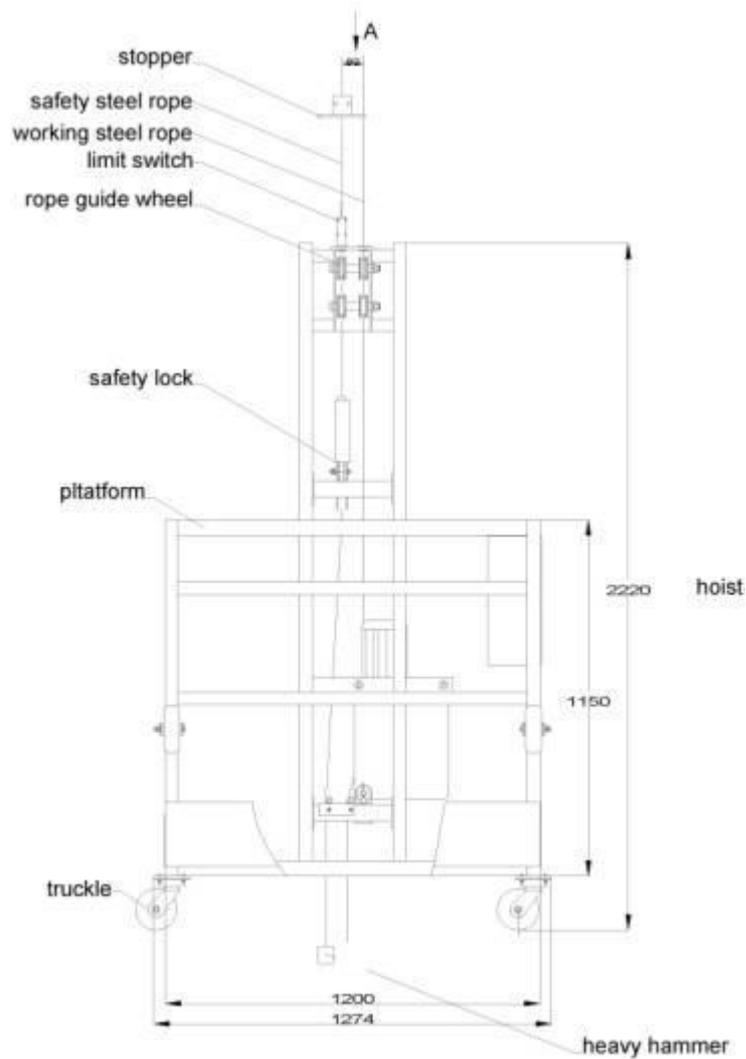
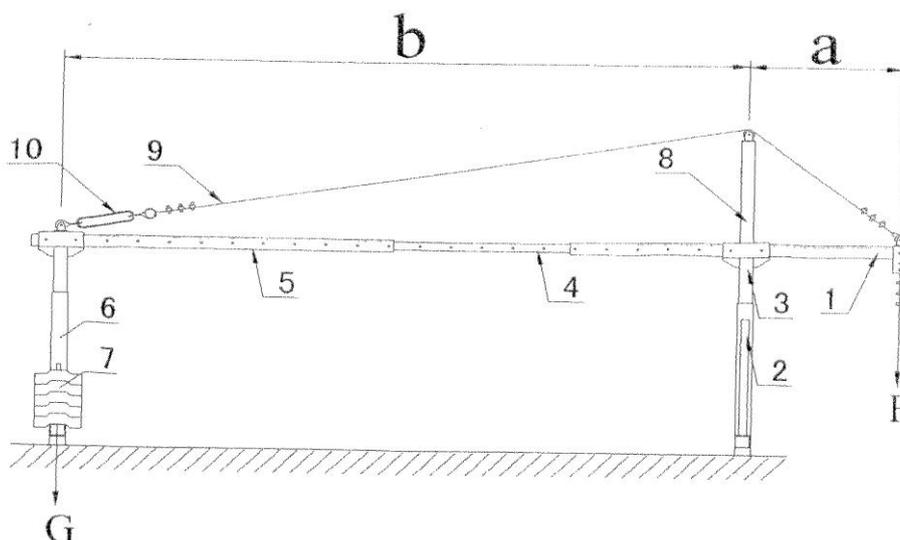

Figure 1: Suspended Platform
Figure 2: Suspension Mechanism
3.1.1 The suspension mechanism (see figure 2 as below) consists of front beam (1), middle beam (4), rear beam (5), front base (2), rear base (6), upper column (8), tommy bar (3), counter weight (7) and reinforce steel rope (9) etc. The tommy bar is mounted on the front and rear base; the front and rear beams will be fixed through the tommy bar, the middle beam is fixed between the front and rear beam. The upper column is mounted on the tommy bar for fixing the reinforced steel rope and counter weight will be placed on the rear base. For details of structure, see attached figure 1: suspension mechanism.
See attached figure 1: suspension mechanism and use the special installing tool — pinch bar if necessary.